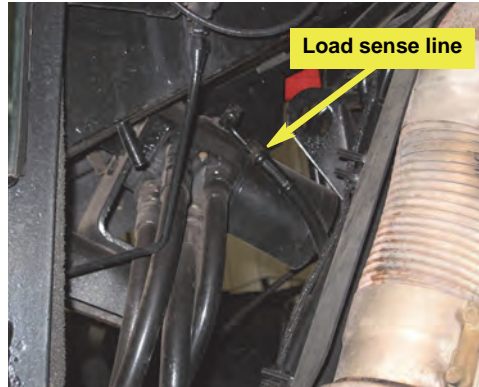

Figure 4b: Load sense line location - top
b. Locate the load sense line on the steering orbital. On some models the load sense line is on the bottom of the orbital instead of the top (Figures 4b and 4c).